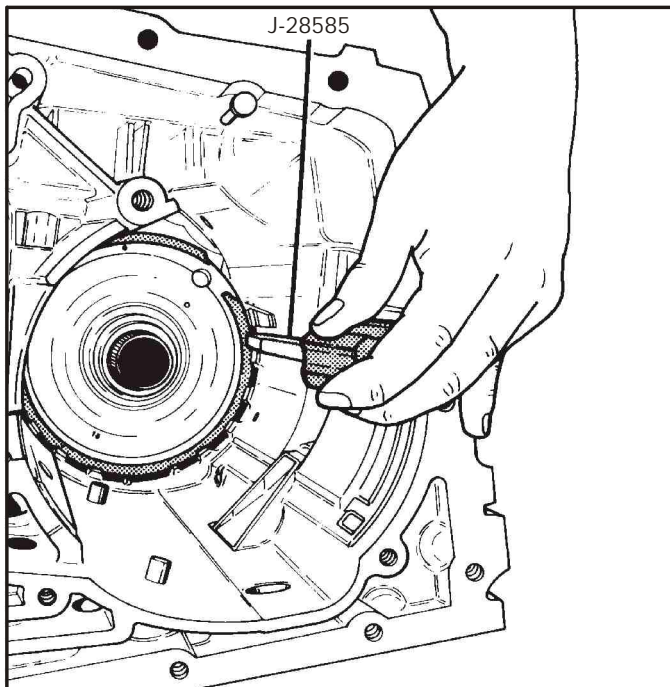

Figure 77
34. Remove final drive internal gear snap ring using tool J-38585, as shown in Figure 77.